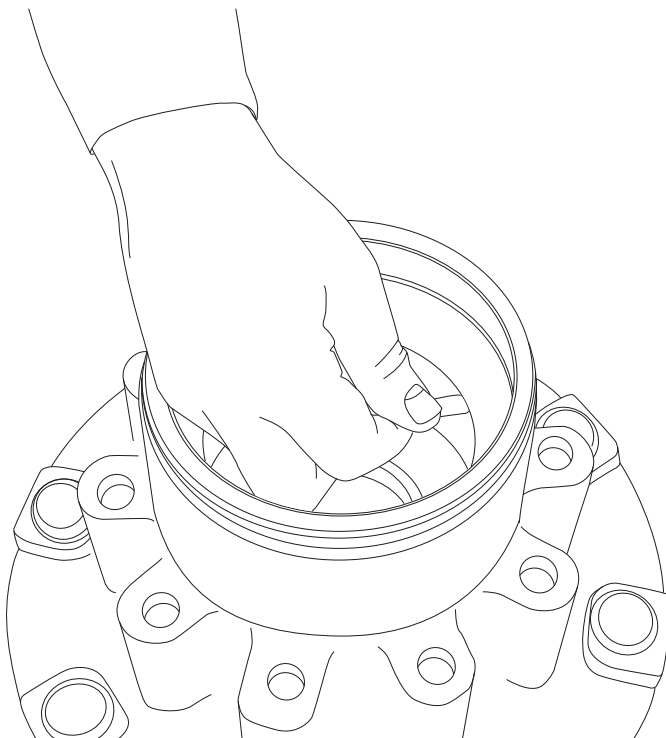

Figure 98: Checking Bearing Cup Installation
12. Check the cup is completely home in the hub by attempting to insert a 0.05 mm (0.002 inch) feeler gauge between the cup and the hub bearing-stop. If the cup is correctly installed, the feeler gauge will not fit. Refer Figure 98.